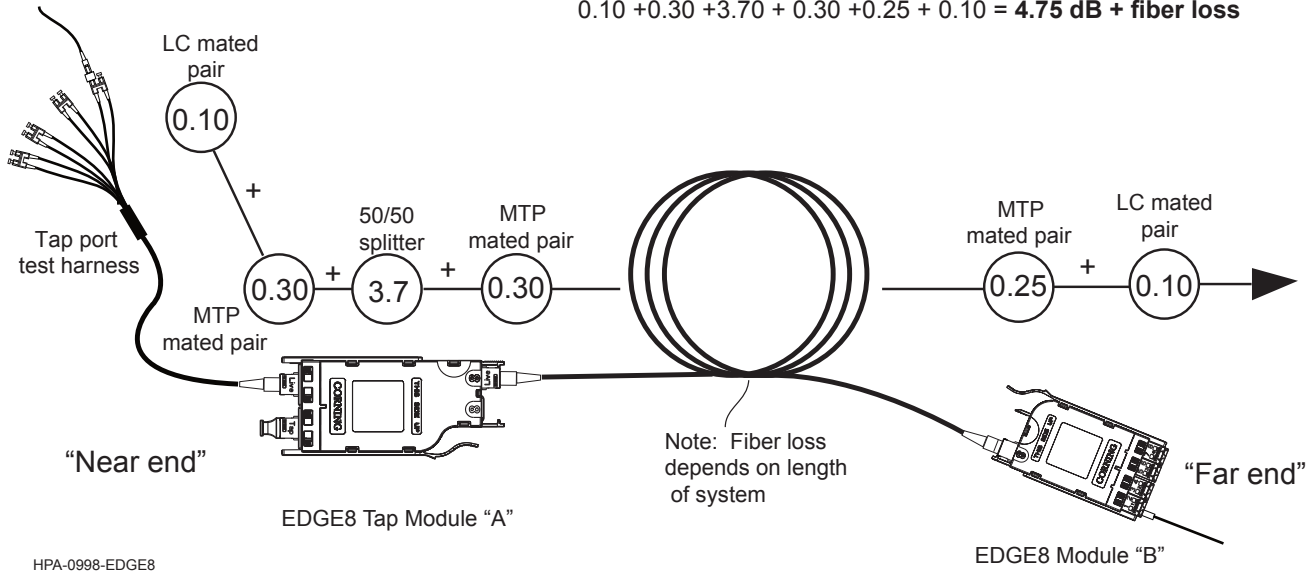

Figure 9
8.1 This section describes how to calculate the loss budgets of the LIVE portion of a system using an EDGE88 MTP Tap Module and how to test that portion of the system. Note that you will need to calculate one loss budget for the LIVE system (Figure 9).
8.2. To calculate the system loss for the LIVE system, add the loss values of the components that are in the system as illustrated in Figure 9.